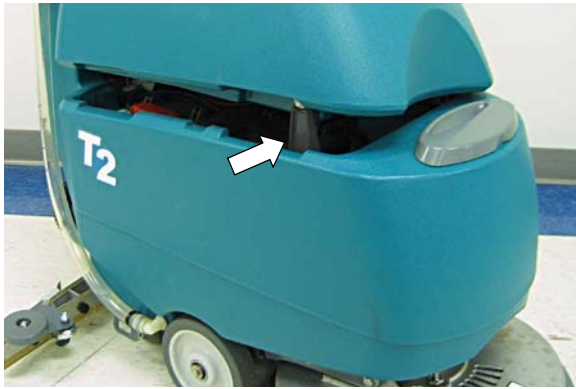

FIG. 31
- Prop up the recovery tank for ventilation (Figure 31).